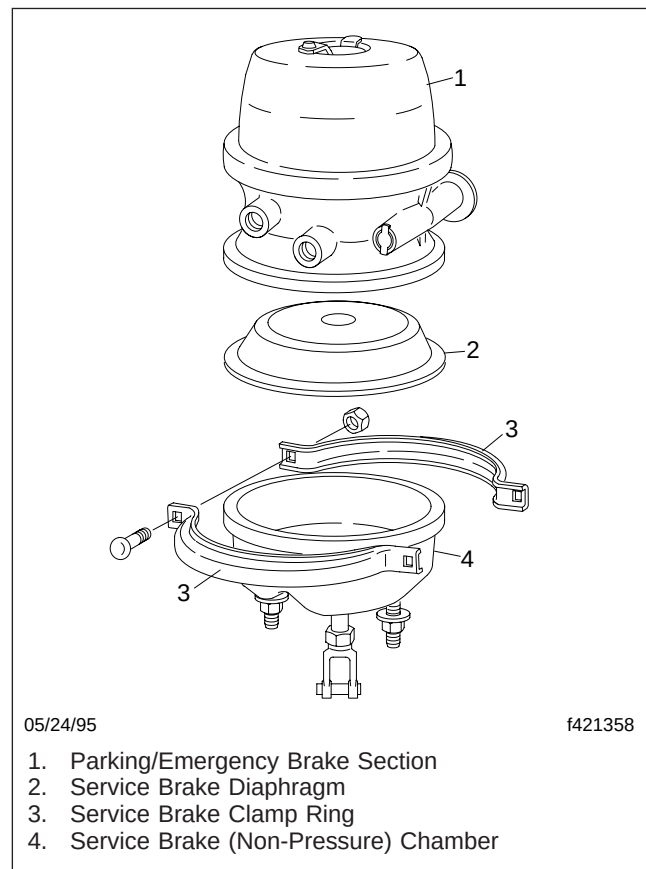

Fig. 4, Brake Chamber Parts
8. Place the new service brake diaphragm in the bottom recess of the parking brake section. See Fig. 4.